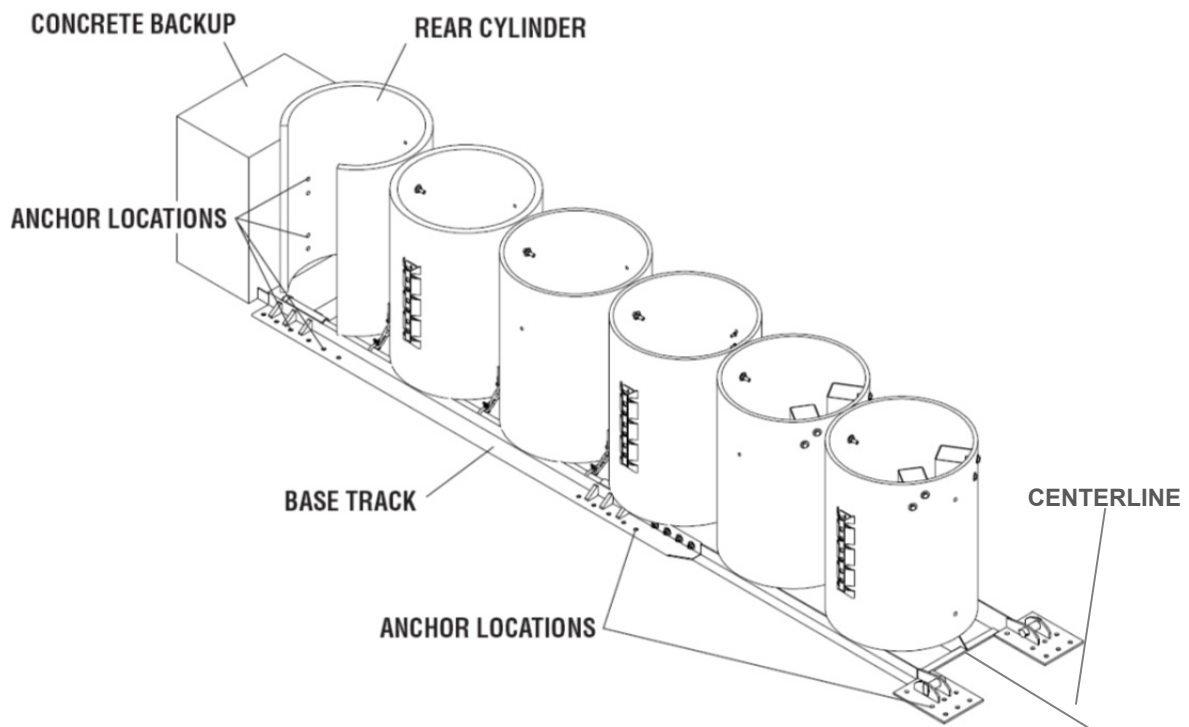

Figure 15
Extend a chalk line from the basepoint, perpendicular to the roadside obstacle face, or as determined by project engineer to a distance greater than the maximum length of the REACT 350® Narrow (refer to the drawings provided). This chalk line will become the centerline for the REACT 350® Narrow (see Figure 15).
Use the holes in the Rear Cylinder as a template to locate and drill two holes, 22 mm [7/8"] diameter x 140 mm [5-1/2"] deep into the Concrete Backup (see page 17). Use horizontal MP-3[®] kit to assemble the 3/4" diameter x 8-1/2" long studs using instructions included with kit. After grout is hardened, use 3/4" nuts and flat washers included with MP-3[®] kits to attach Cylinder assembly to Concrete Backup (see Figure 15).
Use the holes in the Base Track as a template to locate and drill thirty eight (38) holes, 22 mm [7/8"] diameter x 140 mm [5 1/2"] deep into the concrete pad or roadway surface (see Figure 15). **All holes in Base Track must be used to anchor the REACT 350[®] Narrow to the foundation.** Use vertical MP-3[®] kits to assemble 3/4" diameter x 7" long studs using instructions included with kit. After grout is hardened, use 3/4" nuts and flat washers included with MP-3[®] kits to anchor base track to foundation.